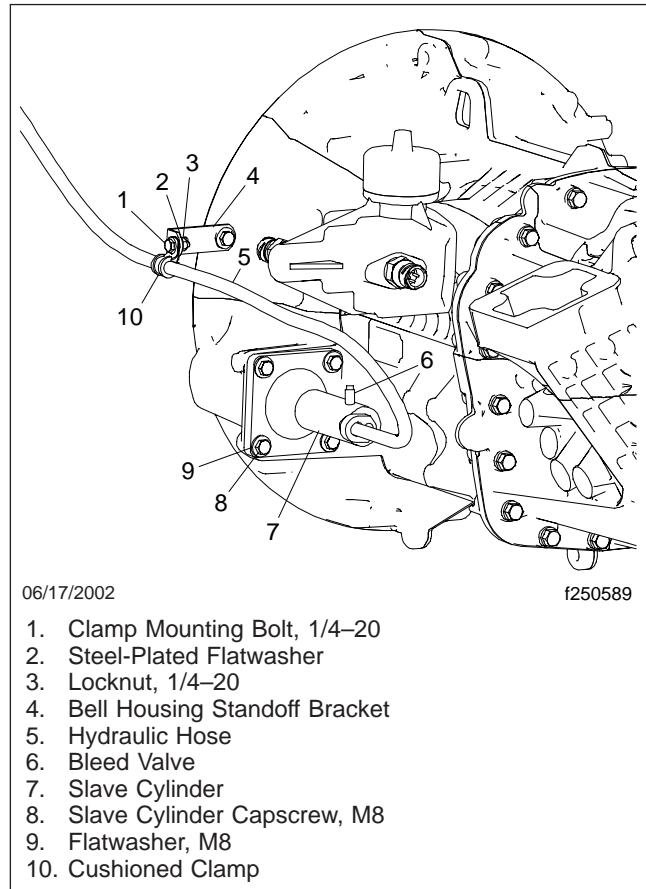

Fig. 3, Clutch Slave Cylinder
3. Using a flat-tip screwdriver, remove the quick-disconnect clamp that attaches the hydraulic hose to the slave cylinder. Retain the clamp for later installation. See Fig. 3.